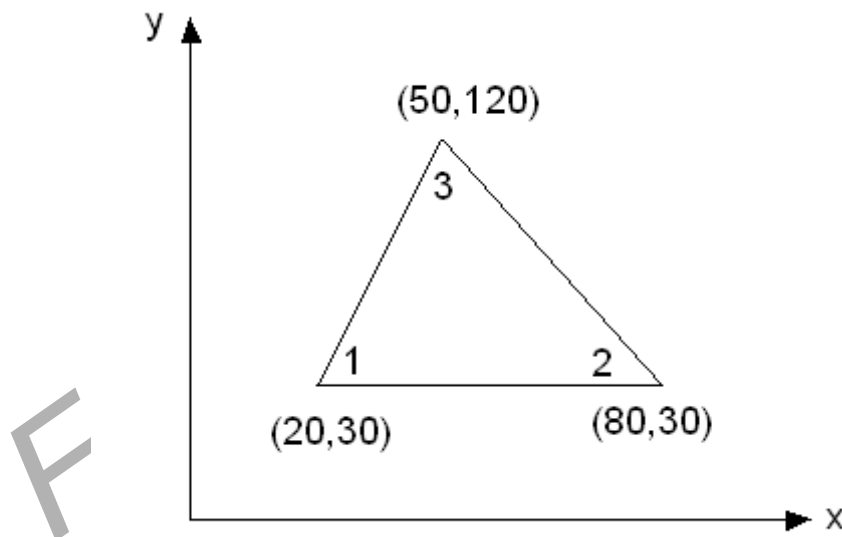

Figure 2
2. Evaluate the element stiffness matrix for the element shown in Figure 2. The coordinates are given in units of millimeters. Assume plane stress conditions. Let $E=210\text{GPa}$, $\nu=0.25$ and thickness= 10mm . [16]